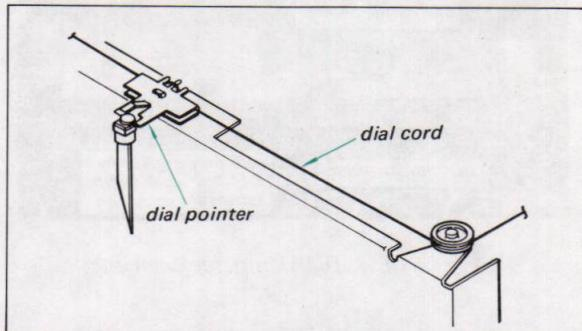

Fig. 2-12. Dial pointer installation
- Put the dial pointer on the cord as shown in Fig. 2-12, and then tune the set to the local fm station. Move the dial pointer to the position where the pointer indicates the local station's carrier frequency. Apply a drop of contact cement to it.